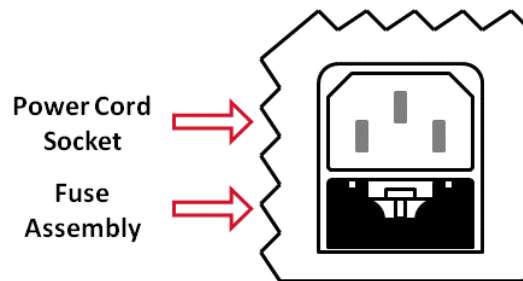

Figure 13. Terranova® 751A AC power module
3. Locate the fuse block below the power cord socket (see **Figure 13**)